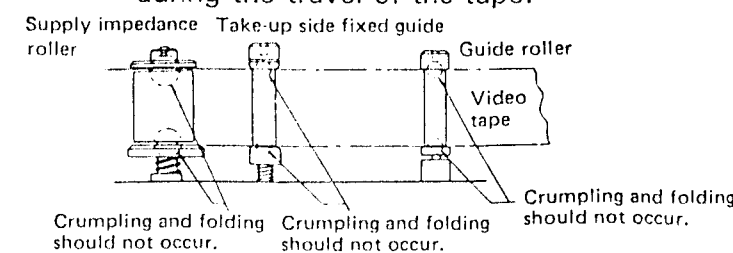

Figure 20.
- 1) Check that the edge of the video tape does not fold or crease, as shown in figure 20, during the travel of the tape:
- 2) After adjustment is complete, always adjust the tape travel, and adjust the take-up and supply guide rollers before carrying out the checks in figure 20.